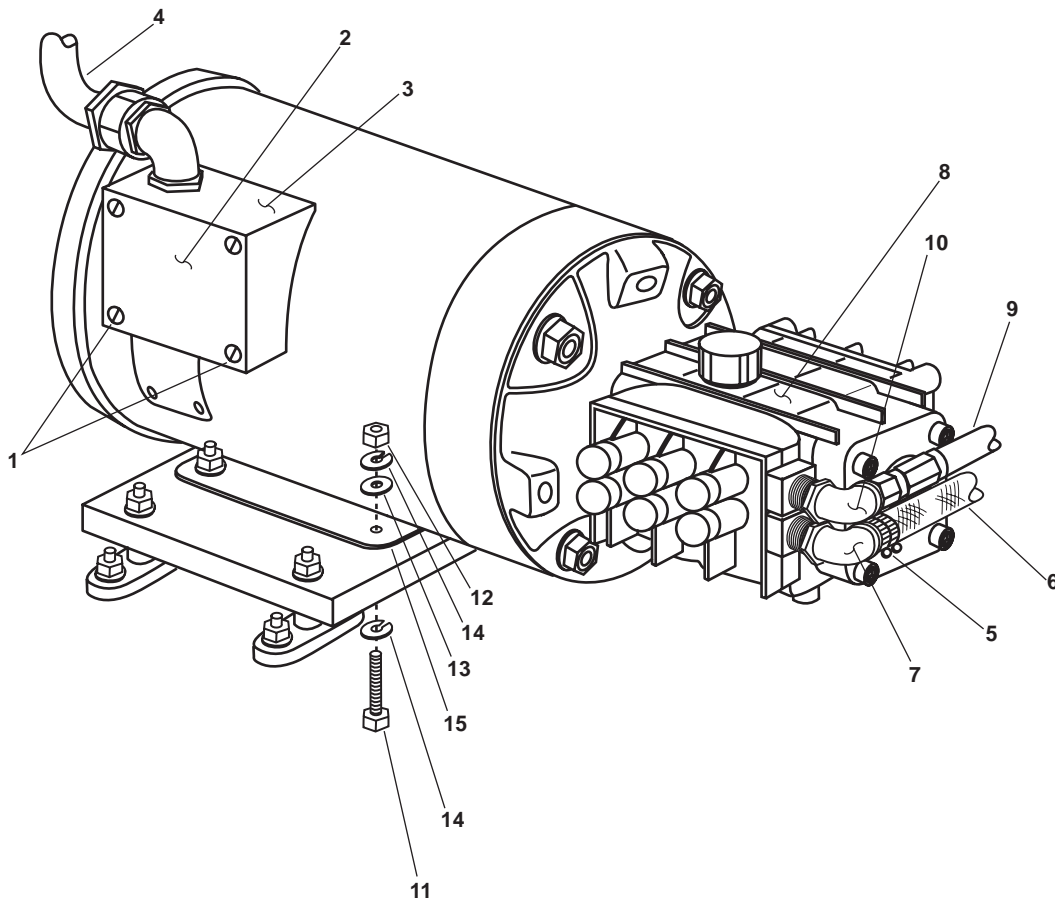

Figure 1. High Pressure Pump
3. At the applicable high pressure pump motor, remove the four screws (figure 1, item 1) that secure the junction box cover (figure 1, item 2). Remove the junction box cover.
4. Take voltage readings with a multimeter, measuring at the connection points in the junction box (figure 1, item 3), to ensure that electrical circuits are deenergized. If voltage is present, ensure that the proper circuit breakers are OFF, locked out, and tagged out (FM 55-502). If no voltage is present, continue with the procedure.
5. Label and disconnect the wires, and remove the cabling (figure 1, item 4) from the junction box (figure 1, item 3) of the applicable high pressure pump.
6. Slowly, loosen the clamp (figure 1, item 5) to the low pressure hose (figure 1, item 6) until water begins to drain from the fitting.
8. Remove the low pressure hose (figure 1, item 6) from the low pressure fitting (figure 1, item 7).
9. Remove the low pressure fitting (figure 1, item 7) from the high pressure pump (figure 1, item 8).
10. Remove the high pressure hose (figure 1, item 9) from the high pressure fitting (figure 1, item 10).
11. Remove the high pressure fitting (figure 1, item 10) from the high pressure pump (figure 1, item 8).
12. Remove four bolts (figure 1, item 11), four nuts (figure 1, item 12), eight flat washers (figure 1, item 13) and four lockwashers (figure 1, item 14) that secure the high pressure pump (figure 1, item 8) to its mounting plate (figure 1, item 15), and remove the high pressure pump.
1. Place the high pressure pump (figure 1, item 8) on the mounting plate (figure 1, item 15), and secure it in place with four bolts (figure 1, item 11), eight flat washers (figure 1, item 13), four new lockwashers (figure 1, item 14) and four nuts (figure 1, item 12).
2. Install the high pressure fitting (figure 1, item 10) into the high pressure pump (figure 1, item 8).
3. Install the low pressure fitting (figure 1, item 7) into the high pressure pump (figure 1, item 8).
4. Install the low pressure hose (figure 1, item 6), and secure it in place with the clamp (figure 1, item 5).